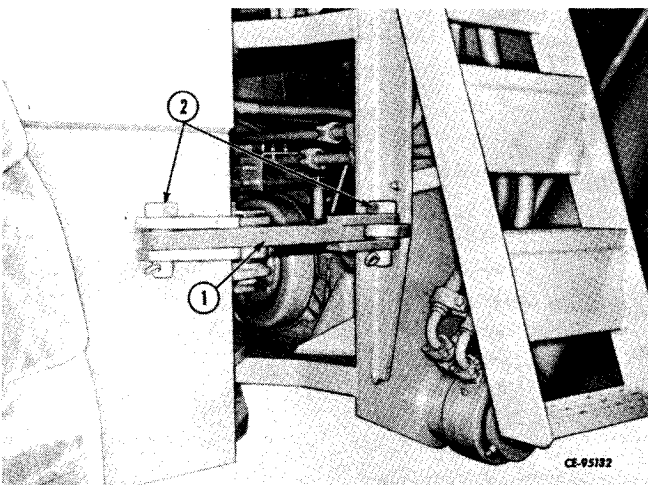

Figure 2-37
Position unit under an overhead hoist and apply the parking brake. Position safety bar (1, Fig. 2-37) and pins (2) in the straight lock position.